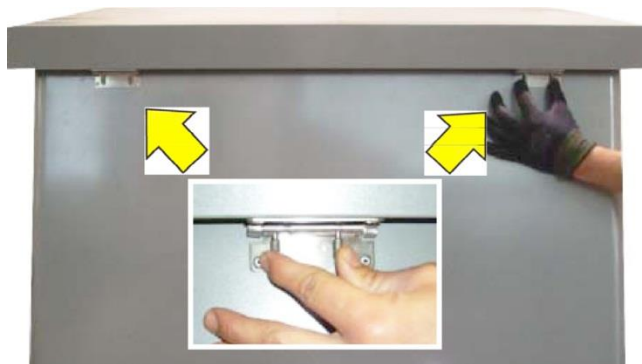

Figure 8-4: Unlatch Top Lid (Step 2)
2. Unlatch and raise the top lid (Figure 8-4).